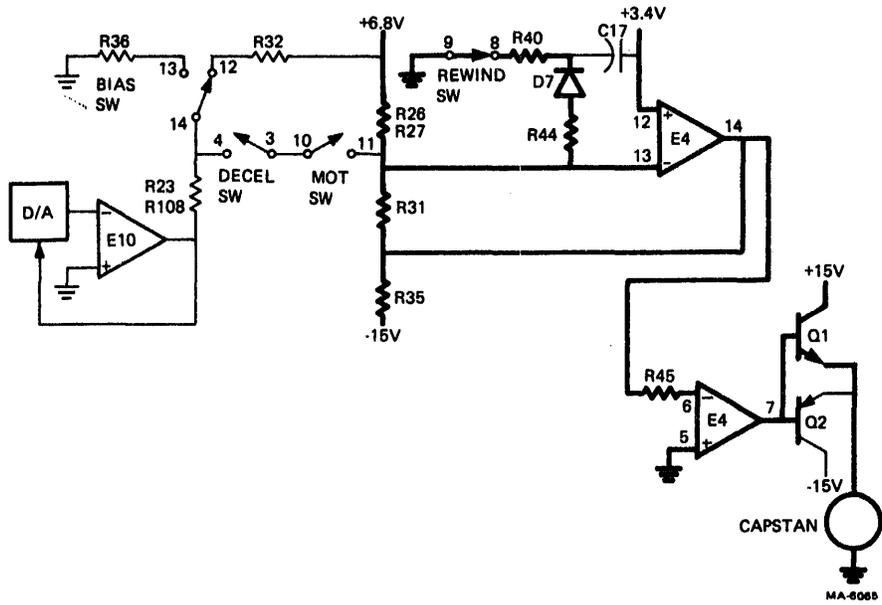

Figure 6-19 Rewind - Capstan Drive
6.5.3.3.4 Rewind (Figure 6-19) - The REWIND SW is closed by CS1 REWIND. All the other switches are deactivated. The inverting input (pin 13) to E4 is now more positive (closer to ground) than its normal operating range for reverse rotation. E4 (pin 14) is operating near the minimum positive end of its range, and the forward bias is high on Q1, low on Q2. Rewind speed is determined by component parameters. Diode D7 limits the positive swing of the inverting input to E4, thereby limiting rewind speed.